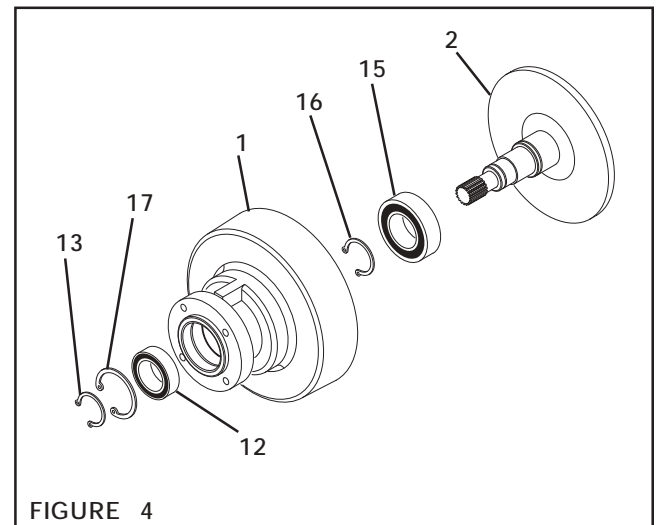

FIGURE 4
2. Remove the Retaining Ring (Item 13); then, press the Drive Disc (Item 2) and Bearing (Item 15) out of the Housing (Item 1) (See Figure 4).
3. Remove the Retaining Ring (Item 17) (See Figure 4).
4. Press the old Bearing (Item 12) out of the Housing (Item 1) (See Figure 4).
5. Remove the Retaining Ring (Item 16) from the Drive Disc (Item 2) (See Figure 4).
6. Using a bearing puller, remove the old Bearing (Item 15) from the Drive Disc (Item 2) (See Figure 4).
8. Supporting the inner race of Bearing (Item 15), press the Drive Disc (Item 2) into the new Bearing (Item 15) (See Figure 4).
9. Reinstall the Retaining Ring (Item 16) (See Figure 4).
10. Heat the Housing (Item 1) to 200° F [93.2° C]; then, apply an adequate amount of Loctite® 680 to evenly coat the outer race of the new Bearing (Item 15) (See Figure 4).
11. Carefully align the outer race of the new Bearing (Item 15) with the bore of the Housing (Item 1), and press the new Bearing and Drive Disc (Item 2) into the Housing (See Figure 4).
12. Apply an adequate amount of Loctite® 680 to evenly coat the outer race of the new Bearing (Item 12) (See Figure 4).
13. Carefully align the outer race of the new Bearing (Item 12) with the bore of the Housing (Item 1) and, pressing on the inner and outer race, press the new Bearing into place (See Figure 4).
14. Reinstall the Retaining Rings (Items 17 and 13) (See Figure 4).